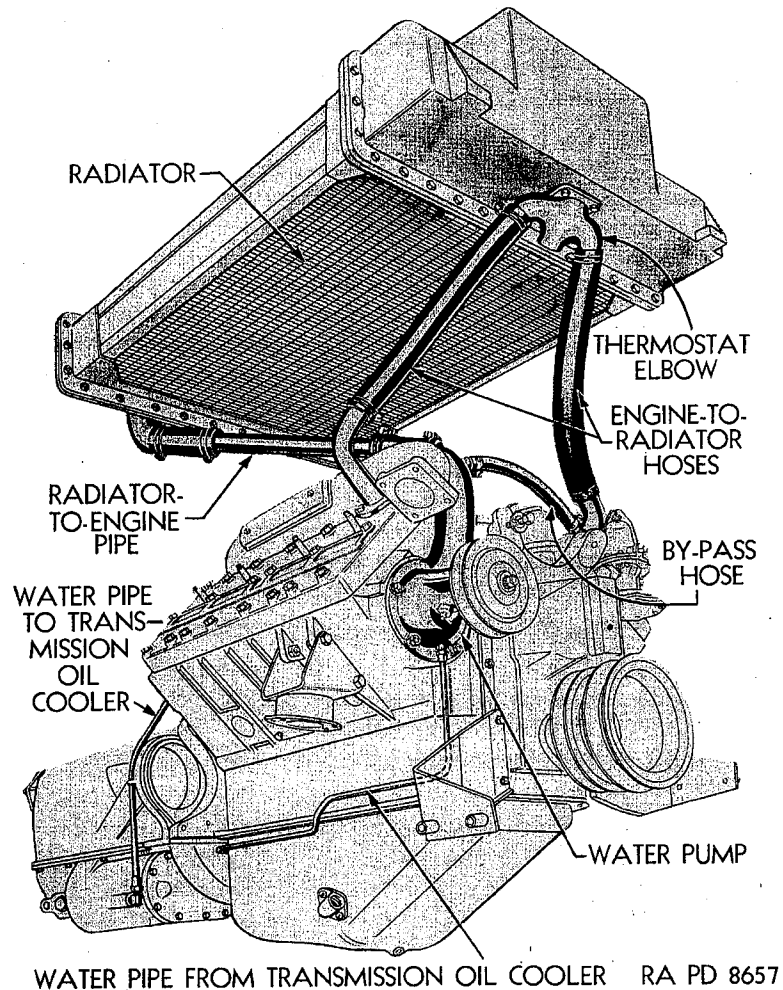

Figure 46—Cooling System
a. Remove fan belt and fan, as explained in Paragraph 82, and drain cooling system. Loosen generator mounting screws and remove water pump and generator belt. Disconnect water pump by-pass hose at left cylinder head outlet elbow and water pump inlet hose, and Hydra-Matic oil cooler pipe at water pump intake (Fig. 46). Remove five water pump mounting screws and water pump assembly.